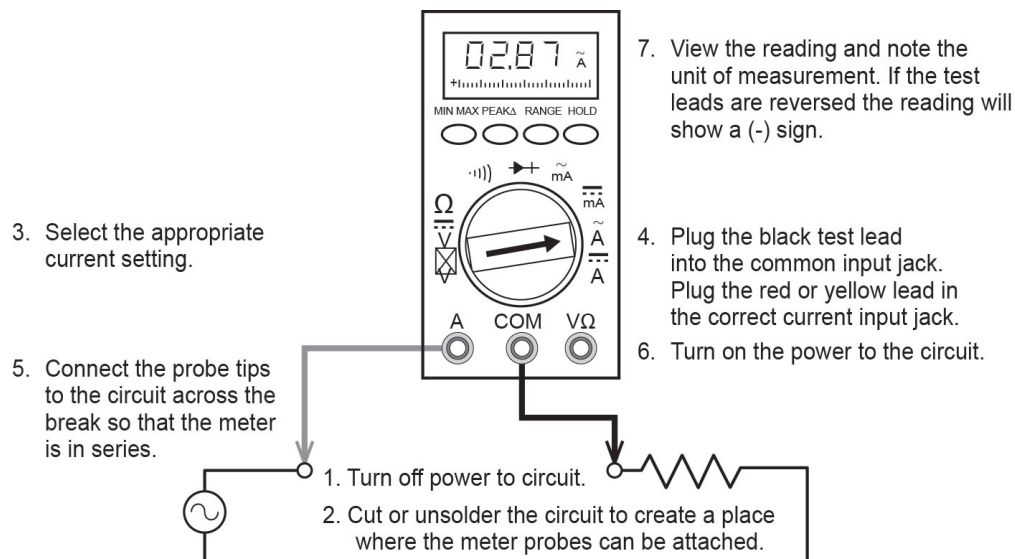

Figure 8 AC amperage measurement with a DMM. (Skilled Trades BC, 2021) Used with permission.
For in-line current measurements, however, the process is slightly more complex. First, the circuit must be opened at the test points and the meter inserted in series at that opening (Figure 8). The total current must flow through the meter. To allow the measurement to be made without disturbing the circuit itself, the current meter must have very little internal resistance.
Follow these steps to measure low amperage current with test leads and refer to Figure 8:
5. Connect the tips of the probes across the break in the circuit, as shown in Figure 8, so that the current to be measured flows through the meter. Note that this is a series connection. Never connect the ammeter in parallel with the source or load, as this will cause a short circuit and damage the meter.